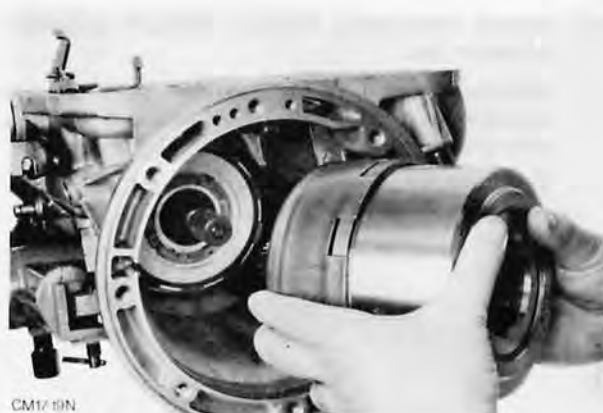

Fig. 77. Remove front assembly
12. Remove front assembly and thrust washer No. 5, Fig. 77.